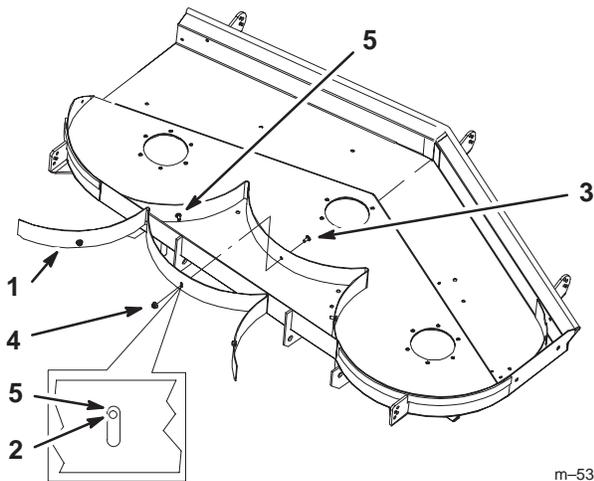

Figure 5
2. Place baffles into the cutting chamber (Fig. 5).
1. Place rear baffle behind the cutting chamber (Fig. 5).
2. At the top part of slot, mark the location of rear baffle mounting holes and then remove baffle (Fig. 5).
4. Install rear baffle to deck with 3 carriage bolts (5/16 x 3/4 in.) and 3 flange nuts (5/16 in.) (Fig. 5).